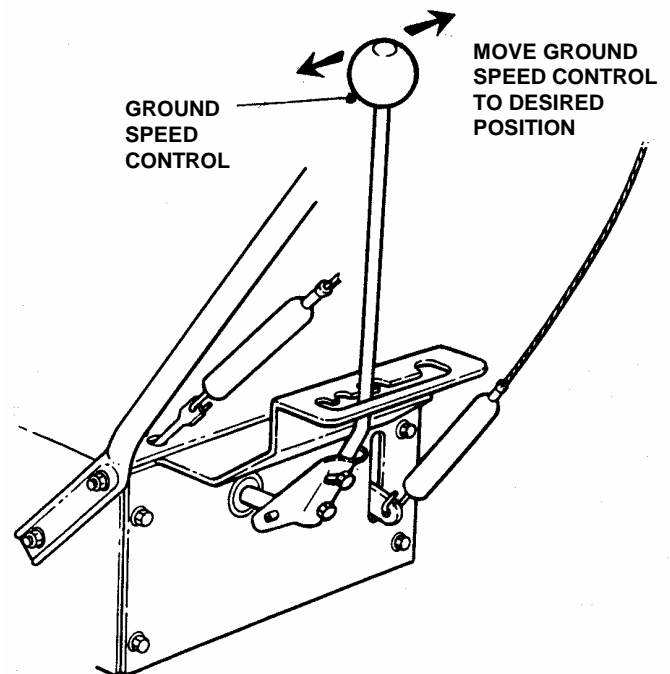
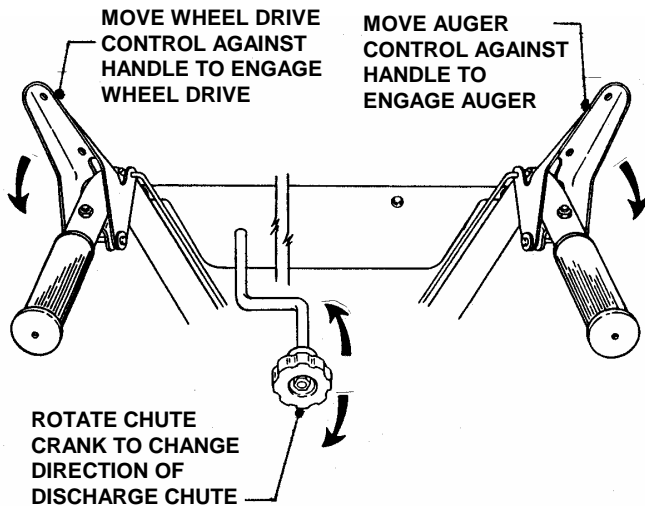
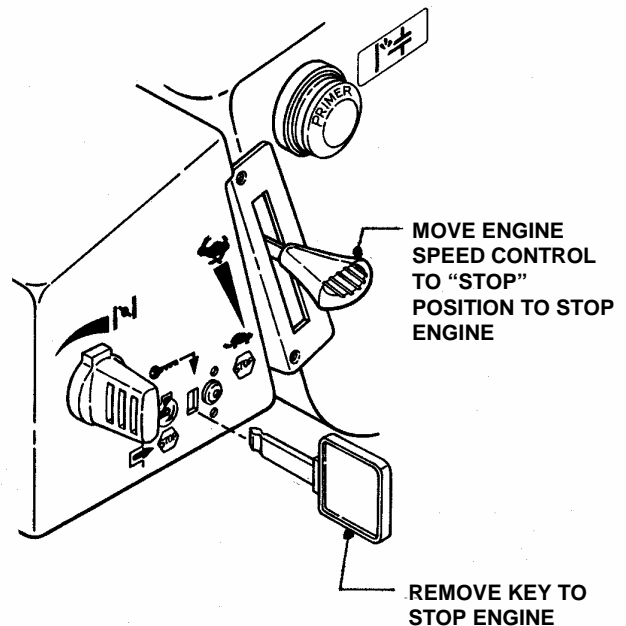

FIGURE 2.5
FIGURE 2.6
FIGURE 2.7
1. Move ground speed control to the desired speed position. See Figure 2.5.
1. Move auger control lever against handle to engage auger. See Figure 2.6.
1. Move wheel drive control lever against handle to engage wheel drive. See Figure 2.6. Ground speed can be changed while the machine is in operation by changing position of the ground speed control. **IMPORTANT:** This snow thrower has four forward speeds and one reverse speed. See Figure 2.5.
1. Release auger control and wheel drive control levers to allow auger and ground speed to come to a complete stop. See Figure 2.6.
3. Rotate chute crank to position discharge chute in desired direction. See Figure 2.6.
Stop the auger and wheel drive by releasing the auger and wheel drive control levers. See Figure 2.6. Stop the engine by removing the key from the switch or moving engine speed control to the STOP position. Always remove key from key switch before leaving machine unattended. See Figure 2.7.
1. Pull auger control lever against handle to engage auger. See Figure 2.6.
1. Move wheel drive control lever against handle to engage wheel drive. Ground speed can be adjusted while the machine is moving by changing position of the ground speed control. Machine has four forward speeds and one reverse. See Figure 2.6.
Stop the auger and wheel drive by releasing the auger and wheel drive control levers. Stop the engine by moving the engine speed control the stop position or removing the key from the switch. Always remove key from key switch before leaving machine unattended. See Figure 2.7.